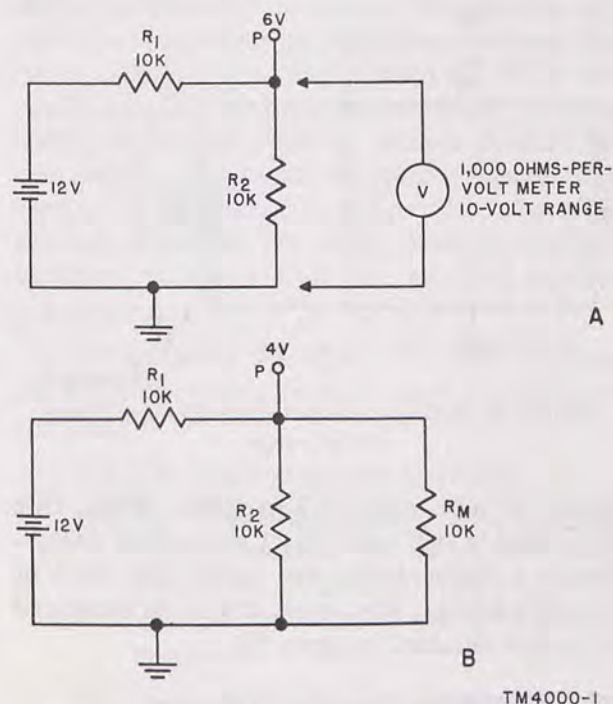

Figure 15. How a low-sensitivity voltmeter loads a circuit.
a. To understand the effects of circuit loading, refer to the circuit shown in A, figure 15. This is a simple series circuit consisting of two identical resistors and a battery. For the values shown, the voltage between point P and ground should be half the battery voltage; that is, 6 volts. Suppose the technician uses a 1,000 ohms-per-volt meter to measure this voltage. The voltage that is expected to be indicated is 6 volts; therefore, the meter scale would probably be set to the 10-volt scale. This means that the meter resistance is now 10,000 ohms. When the meter is connected from point P to ground, the circuit is no longer like that in A, but is like that shown in B. Notice that R_M , the 10,000 ohms in the meter, is in parallel with R_2 , which is also 10,000 ohms. The resultant resistance is 5,000 ohms; this is the effective resistance that is in series with R_1 . The voltage from point P to ground is no longer half the battery voltage, but is now only 4 volts.
meter is now only 15.7 percent. While this difference is still too high, it shows that switching to a higher range can reduce the effect of circuit loading. The result should be compared with that obtained in figure 15.